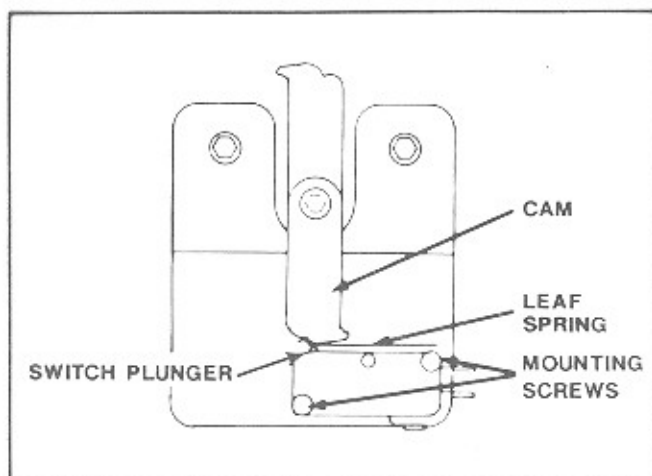

Figure 6-12. Cam Switch Adjustment
1. Check that the plastic cam leaf spring is resting in the cam lobes and that the switch plunger just touches the bottom of the leaf spring as shown in figure 6-12.
2. To adjust the switches, loosen mounting screw under plunger end and move the switch housing as described in the previous step (see figure 6-12).